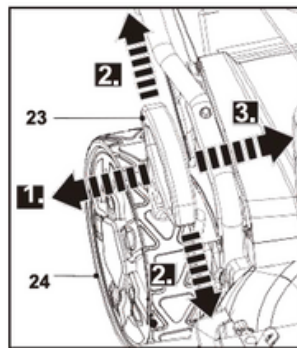

Fig. 20
1. Set the cutting height adjustment lever (24) higher than the second-to-last position (Fig. 20).
Pull the cutting height adjustment lever (23) toward the rear wheel (24) (Fig. 20, step 1), then move it forward or backward to the desired cutting height (Fig. 20, step 2).
Release the lever (23) and ensure it engages properly in the selected position (Fig. 20, step 3).